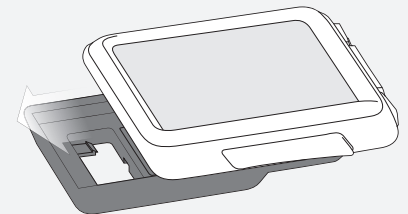

Figure 25. Slide Computer into Base.
7. Slide the computer head into the base (Figure 25).
4. Slide the computer head into the base (Figure 25).